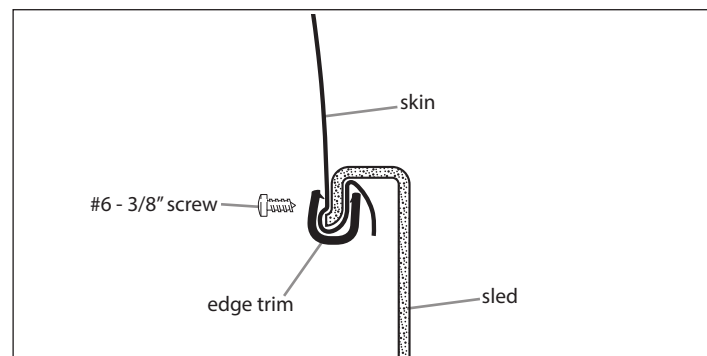

FIGURE 11
18. Secure the edge trim in place using the (13) #6 x 3/8" sheet metal screws provided. A cordless drill and Phillips head bit is recommended for this step, but is not necessary. **SEE FIGURE 11**